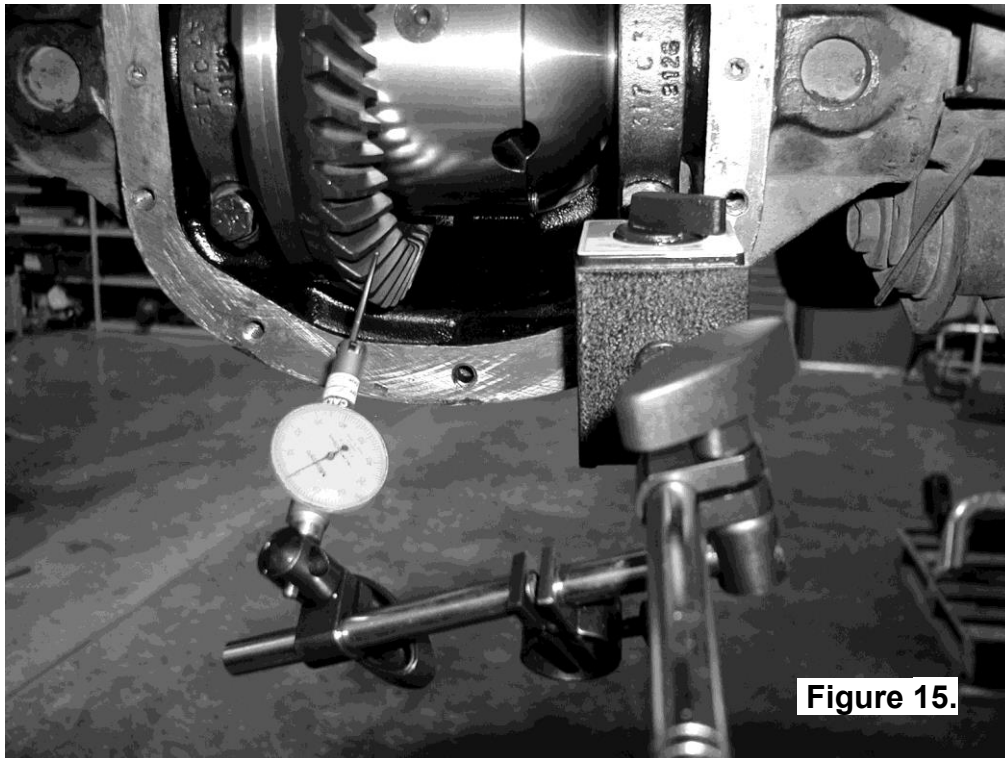

Figure 15.
- ☐ Set a depth indicator on one of the ring gear teeth as in Fig.15.